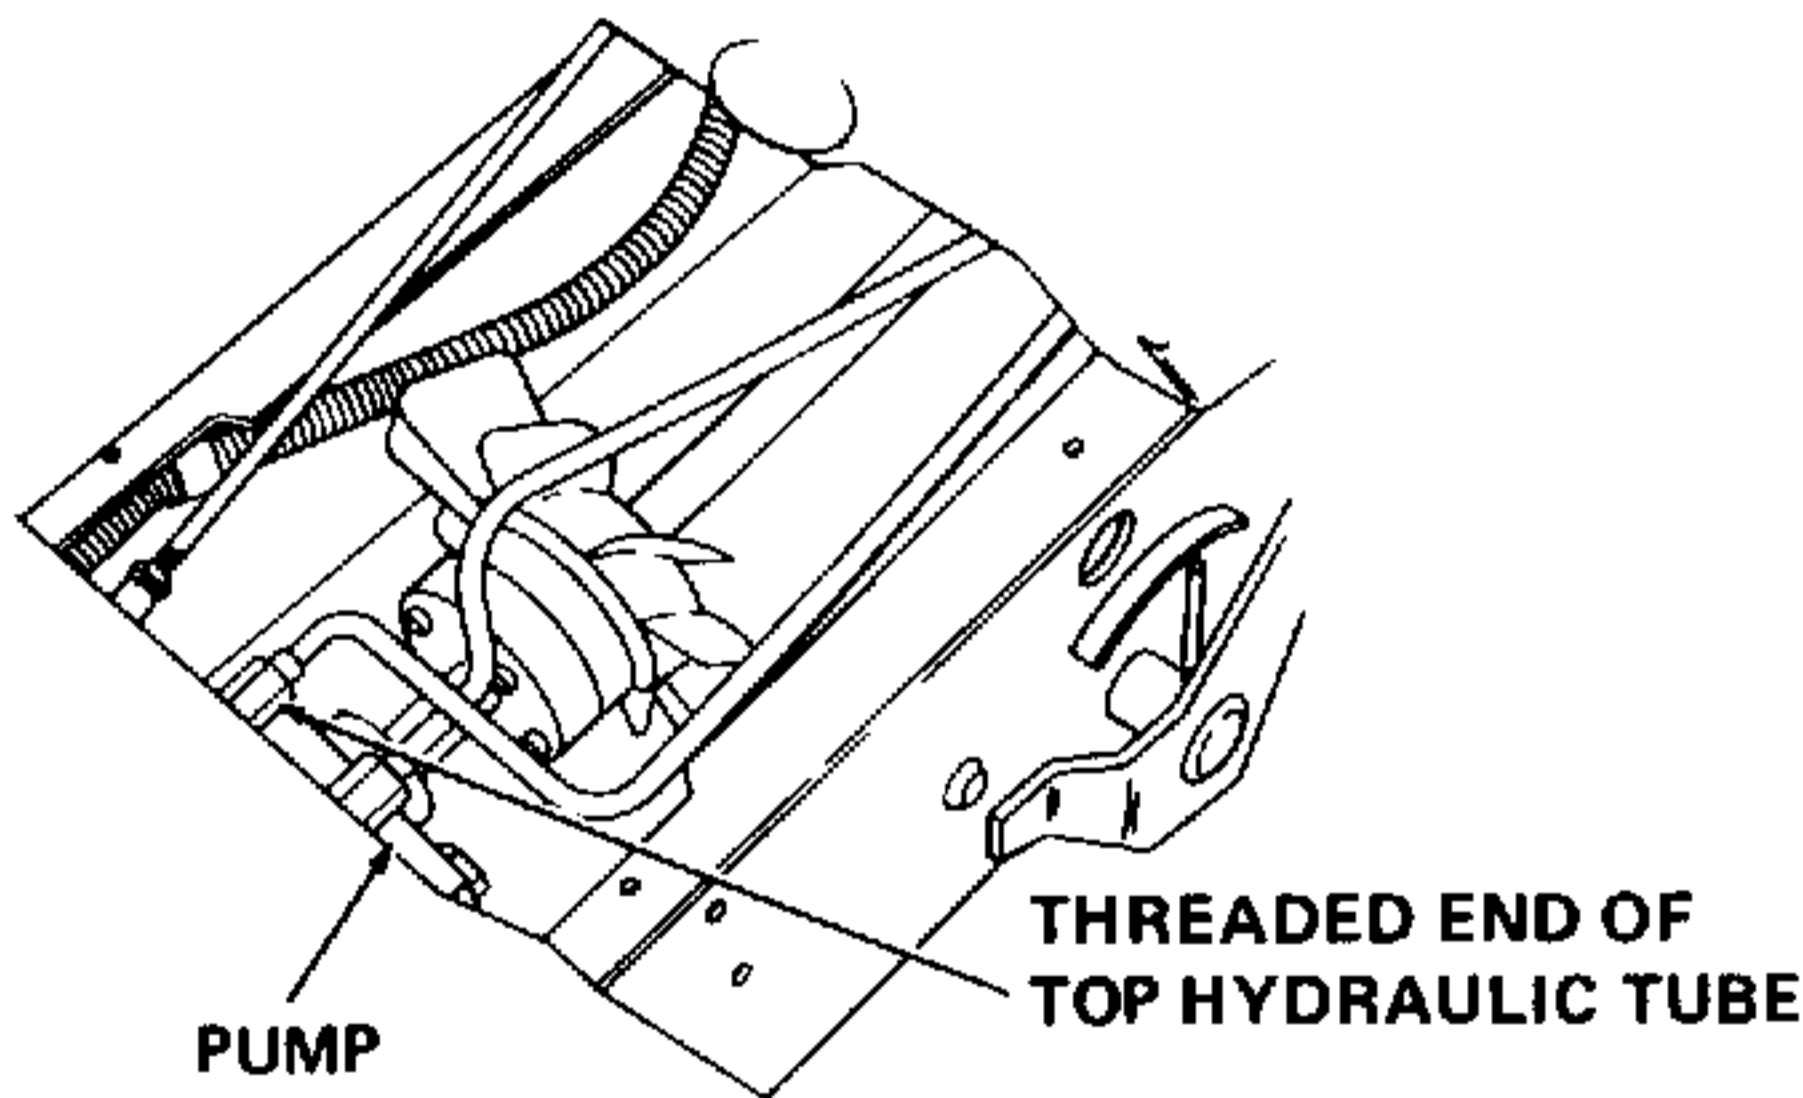

Figure 7-71. Removing Threaded End of Top Hydraulic Tube (Model 1541 Only).
4. For tractor Model 1541 only, top hydraulic tube extends directly back to pump. Remove tube from pump. Refer to Figure 7-71.